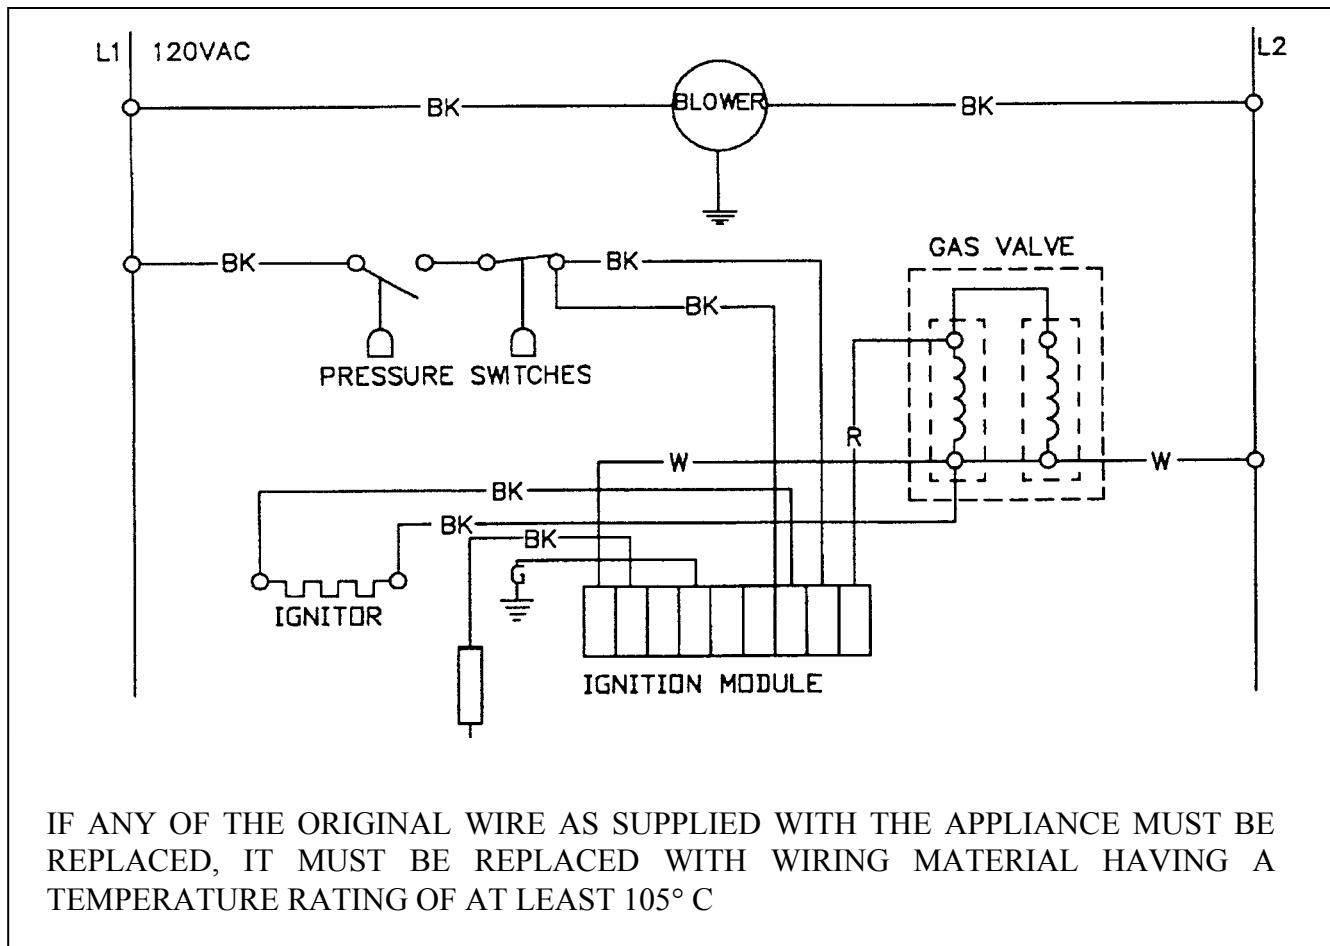

Figure 3-1
- **Starting Circuit (Figures 3-1 and 3-2)**